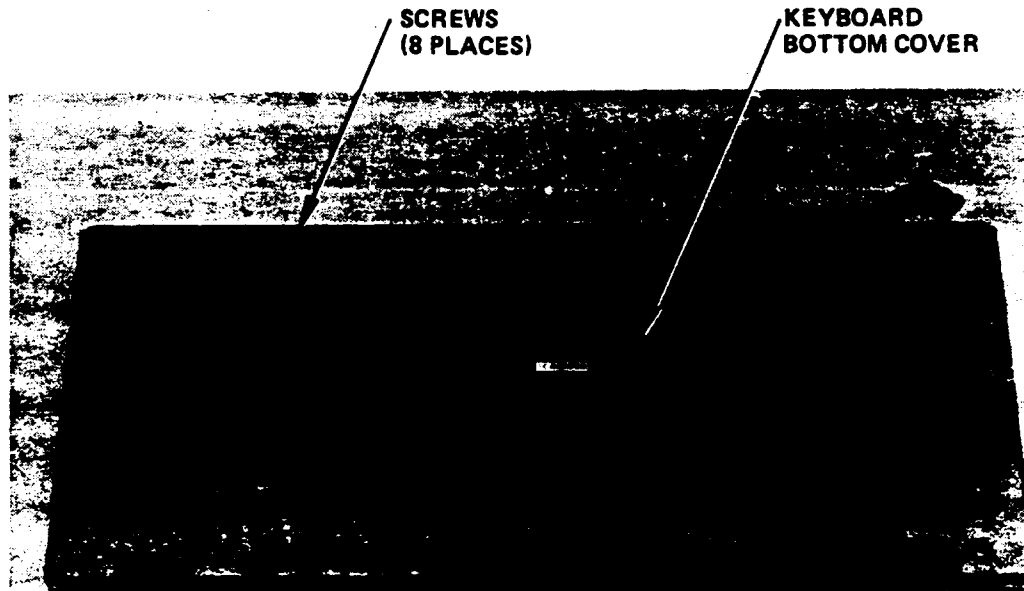

Figure 2-17. Keyboard Bottom Cover
2. Turn the keyboard upside down and remove the eight screws from the bottom cover (refer to Figure 2-17). Turn the keyboard over. Remove the keyboard top cover (two pieces). Refer to Figure 2-18. Be sure not to lose any of the 16 function keys when the keyboard is turned upside down.